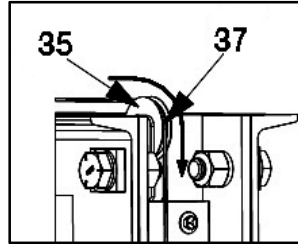

Fig. 15: Route bolster cable around single sheave mount
18. Wrap one end of the Bolster Cable [item #37] around the Single Sheave Mount Weldment [item #35] and attach the end to the Cable Attachment Bracket [item #32] using a Clevis Pin with Hairpin [item #19] as shown in Fig. 15 & 16.